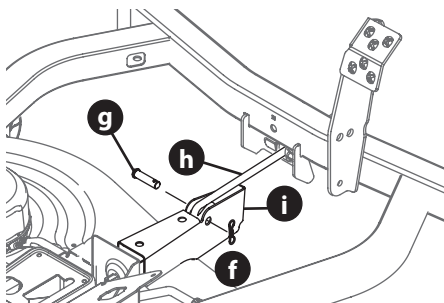

Figure 40
4. Remove the third bow-tie pin (f) from the clevis pin (g) that secures the front deck control rod (h) to the front deck lift bracket (i) (Figure 40). Remove the clevis pin (g).